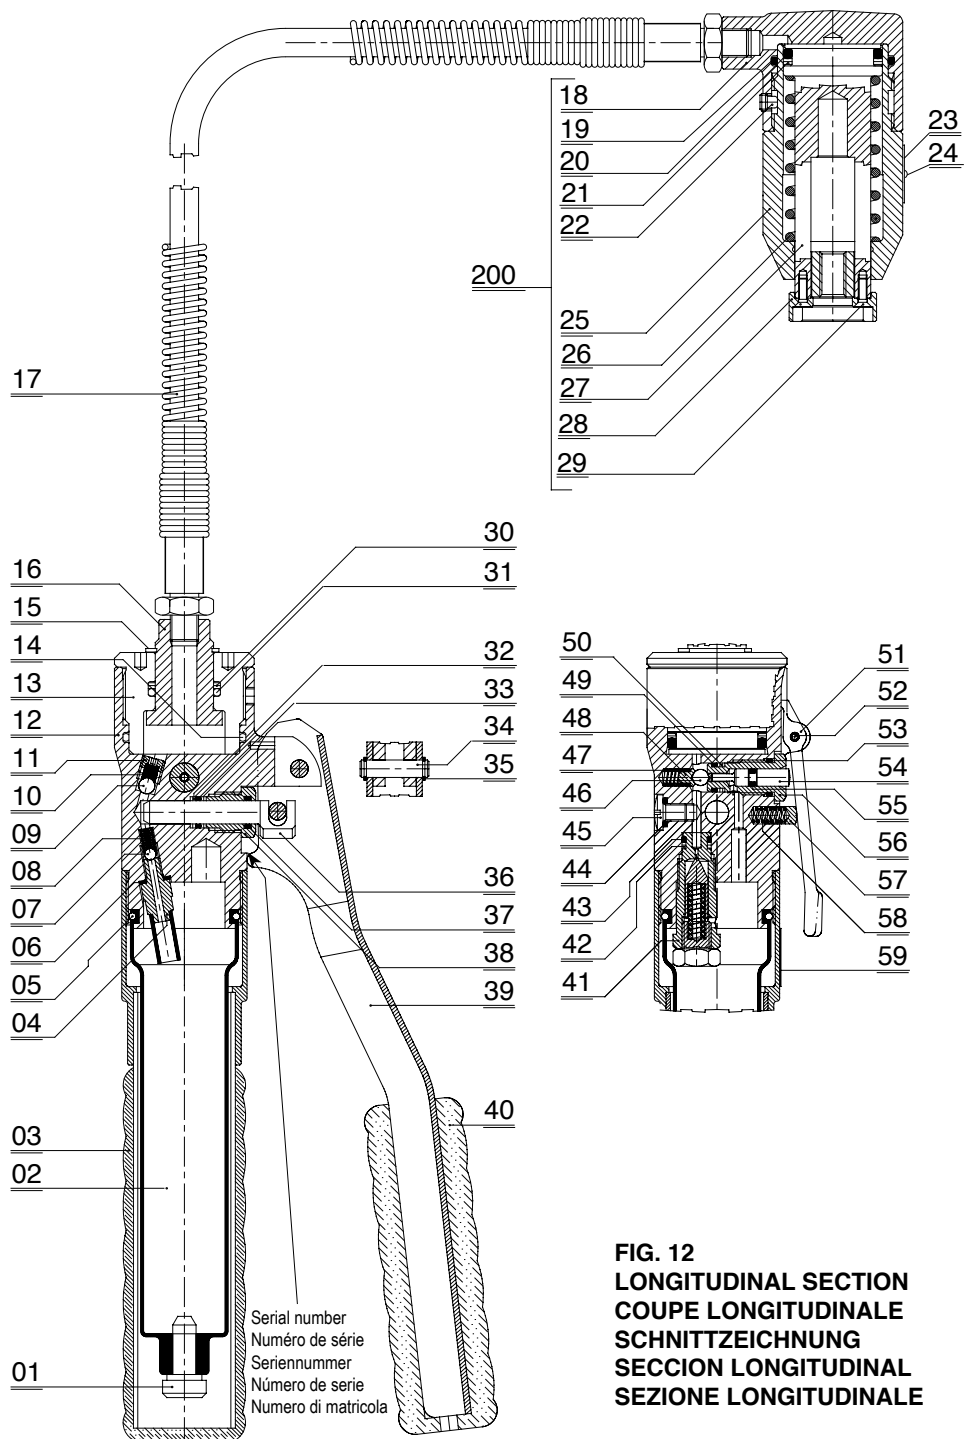

FIG. 12
7. PARTS LIST (Ref. to Fig. 12)